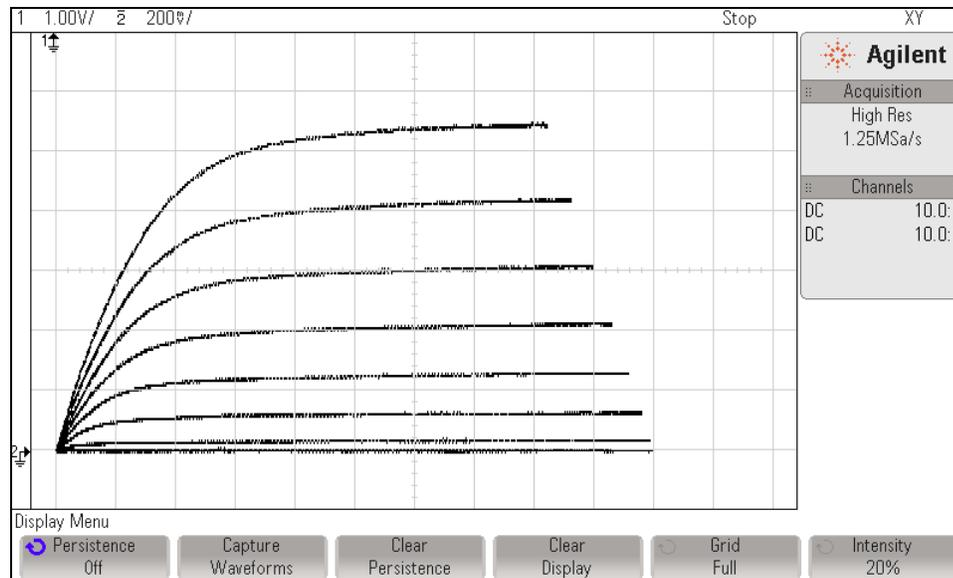

Figure 9. Family of Curves.
- Increase  $V_{GS}$  by  $\Delta V_{GS} = 0.5V$  and repeat step 5 until  $V_{GS} = +0.5V$ . You should end up with a display like the one shown in Figure 9. Reverse the power supply leads for  $V_{GS} > 0V$ . Save this display to your USB drive and include it in your lab report.